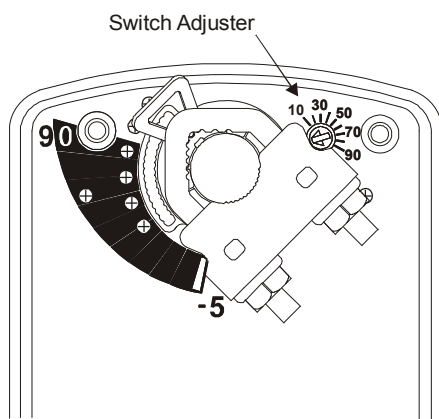

Figure 7: Switch Trip Point Settings
The Dx.Fx.03S(Z) models include one integral auxiliary switch with a switch adjuster accessible on either face of the actuator. The factory setting for the Auxiliary Switch is 11° closing (relative to the 0 to 90° rotation range as printed on the product label). The switch point continuously adjustable throughout the actuator's rotation range. For the most accurate switch positioning, see Figure 7 and use the method in the following example.